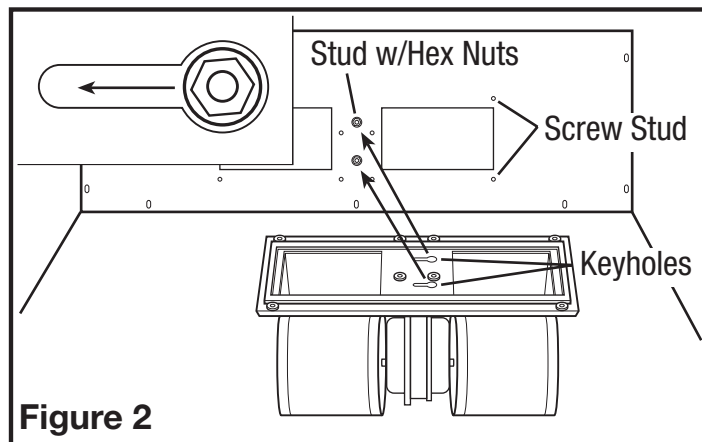

Figure 2
- Lift blower up into the hood canopy and slide the keyhole slots in the motor mounting flange over the two studs of the hood. Slide the motor into place and tighten the hex nuts on the mounting stud while lining up the 8 holes in the motor mounting flange to the 8 screw studs of the hood (**Figure 2**).
- Lift blower up into the hood canopy and slide the keyhole slots in the blower mounting flange over the two studs of the hood. Slide the blower into place and tighten the hex nuts on the mounting stud while lining up the 8 holes in the blower mounting flange to the 8 screw studs of the hood (**Figure 2**).